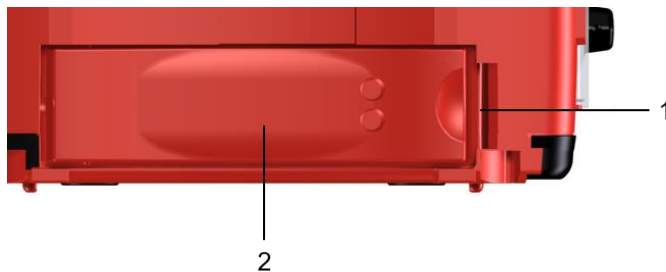

Fig. 10 DefiMonitor XD – removing the energy module
- Press the release mechanism button, fig. 10 (1) to the right until the energy module (2) is released and protrudes from the slot.
- Pivot the energy module (2) to the front and remove it.